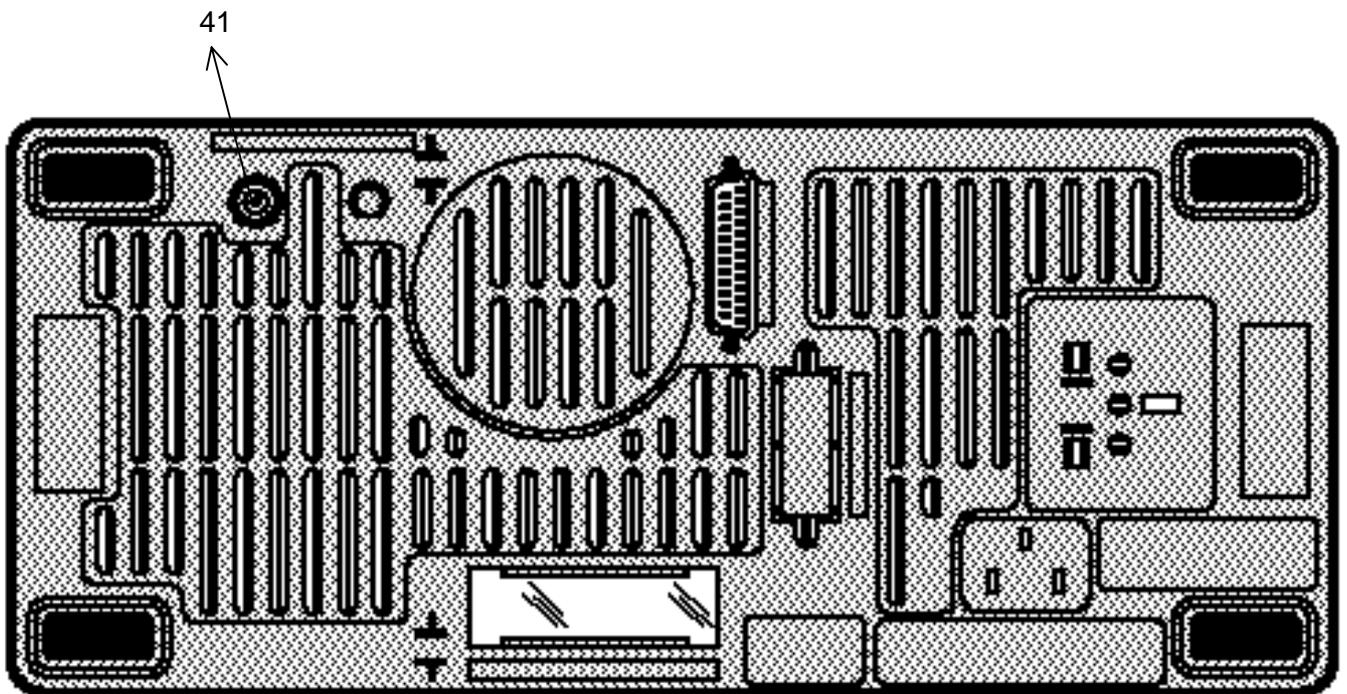

figure 8
- (2) **TRACE ROTATE** - Adjusts parallel alignment of traces horizontally (this is done using a screwdriver).
- (41) **Z MODULATION** - Inputs, via a BNC socket (41) on the rear panel (figure 8), a TTL signal to extinguish the spot (0 V level → trace on, 5 V level → trace off).